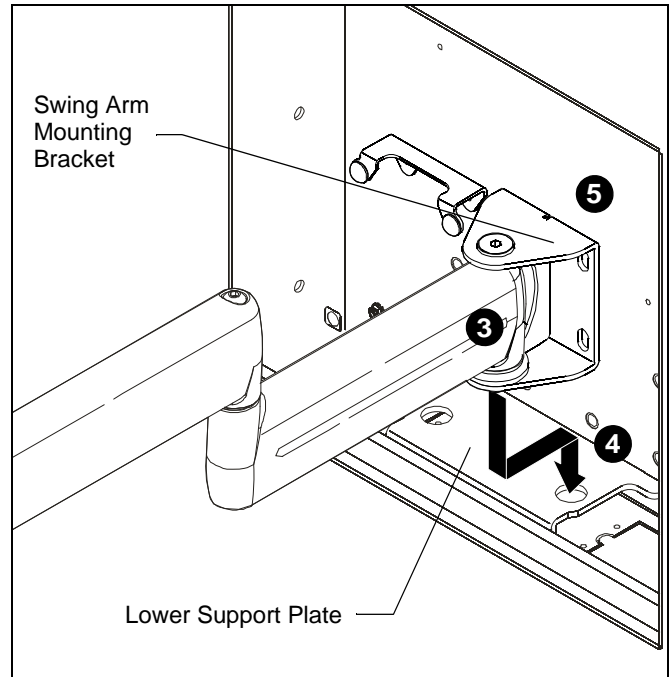

Figure 2
The MAC501 is designed to accommodate 4 1/2" of right or left display offset. This is accomplished by aligning the JWDIW with either the right hand or left hand hole in the MAC501 bottom support plate. The bumper mounting bracket is installed on the side opposite the side used for installing the JWDIW swing arm. (See Figure 2)
3. Align bottom of swing arm pivot pin with hole in lower support plate. (See Figure 2)
4. Lower swing arm until pivot pin rests in hole in lower support plate. (See Figure 2)
5. Align four mounting holes in swing arm mounting bracket with four mounting holes in MAC501. (See Figure 2)